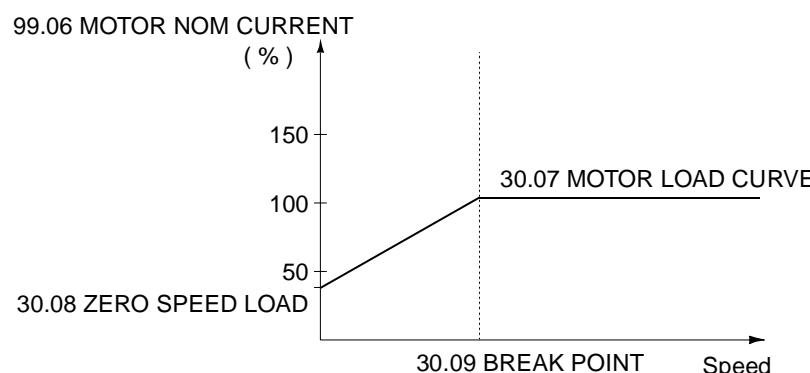

Figure 6-15 Motor Load Curve.
- Motor heating is calculated assuming a load curve (*Figure 6-15*). The motor will heat above nominal temperature if it operates in the region above the curve, and cool if it operates below the curve. The rate of heating and cooling is set by MOTOR THERM TIME.
30.09 BREAK POINT	This parameter defines the point at which the motor load curve begins to decrease from the maximum value set by Parameter 30.07 MOTOR LOAD CURVE to the Parameter 30.08 ZERO SPEED LOAD. Refer to Figure 6-15 for an example of motor load curve.